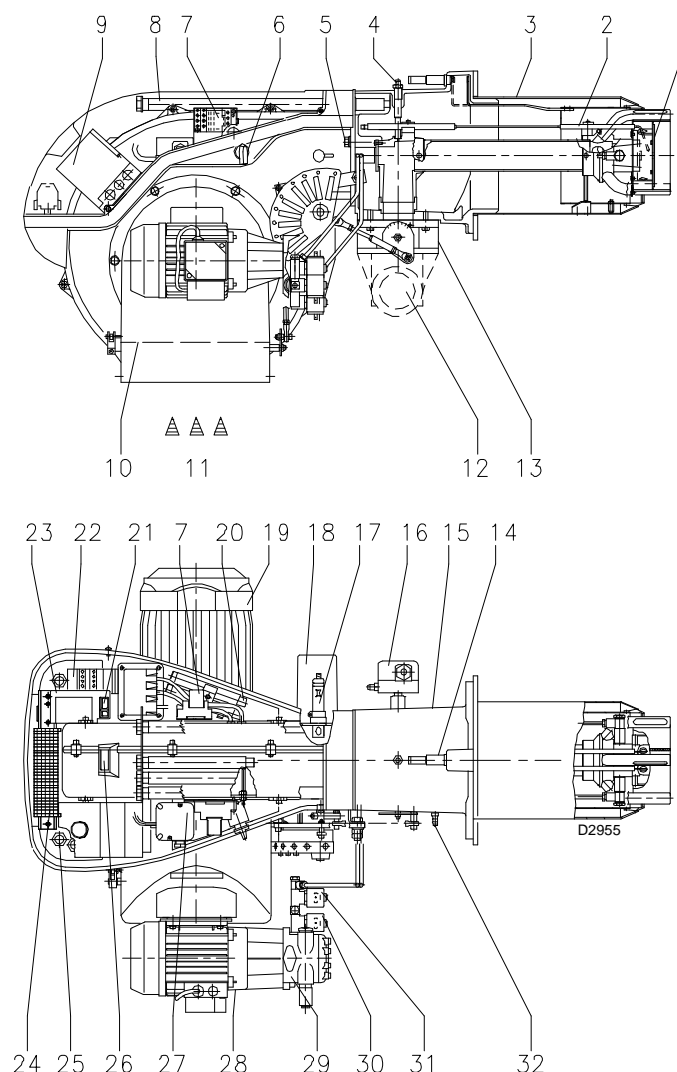

Fig. 6
if the control box 9)(Fig. 6) pushbutton lights up, it indicates that the burner is in lock-out. To reset, press the pushbutton.
release by pressing the pushbutton on thermal relay 22)(Fig. 6).
- 2 - Extensions for slide bars 8)(Fig. 6)